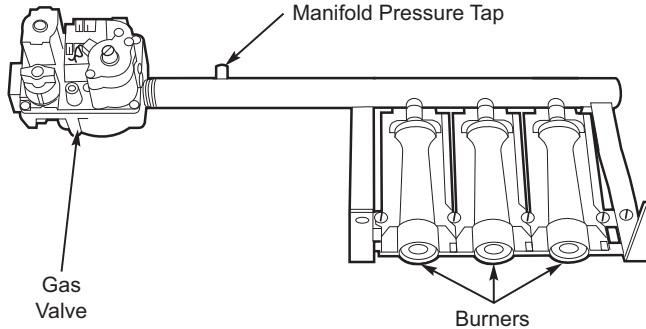

Fig. 52 — Burner Tray Details
10. Slide the burner tray out of the unit (see Fig. 52).
2. Remove manifold pressure tap plug from manifold and connect pressure gauge or manometer. (See Fig. 52.)
11. Turn off unit, remove pressure manometer and replace the manifold pressure tap plug. (See Fig. 52.)